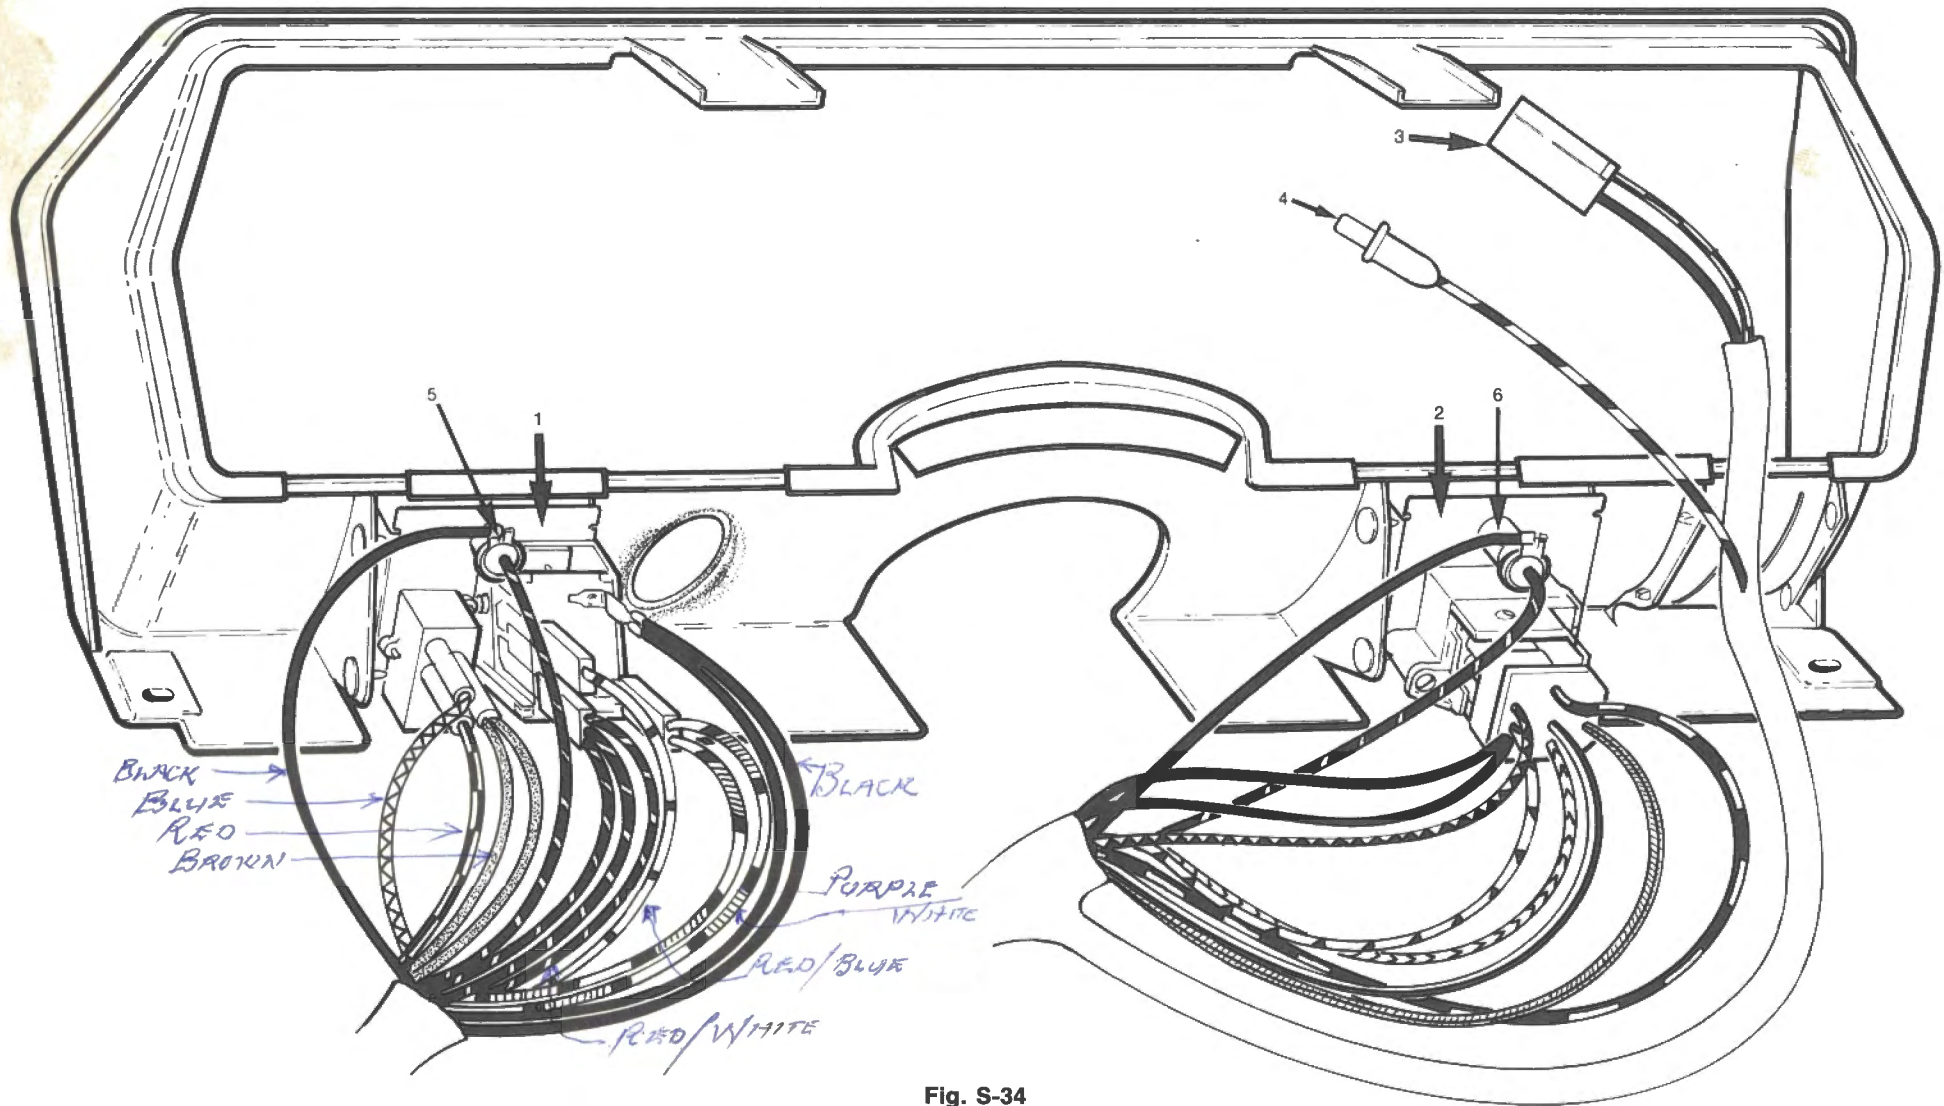

Fig. S-34
- 13 CONNECTOR TO SWITCH HARNESS Fig. S-34